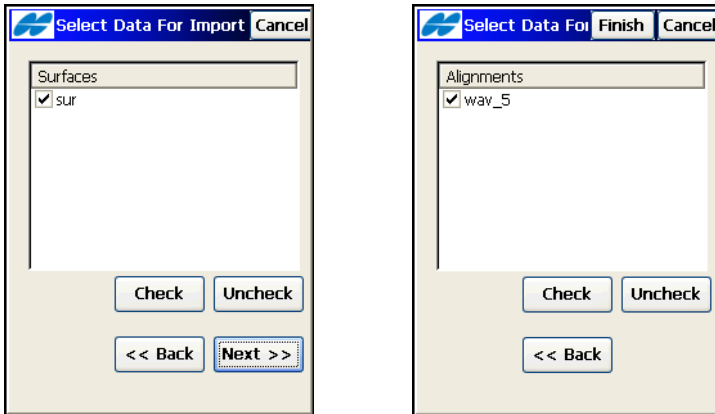

Figure 5-30. Select Data For Import
- **Next** – if available opens the **Select Data For Import** screen (Figure 5-30 on page 5-28).
On the Select Data For Import screen (Figure 5-30), select objects from the list to import. Follow the **Next** button until the **Finish** button appears on the screen.